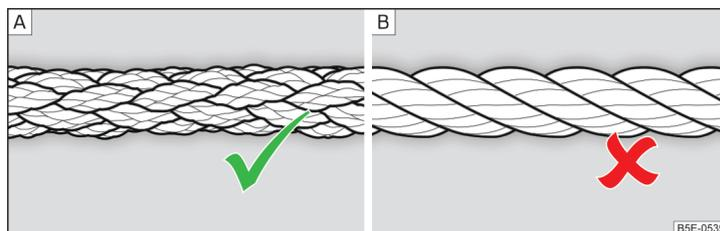

Fig. 181 Braided tow rope / Spiral tow rope
For towing, a braided tow rope is to be used » Fig. 181 - A.
- Do not use spiral rope for towing » Fig. 181- **B**, the towing eye may unscrew from the vehicle - risk of accident.